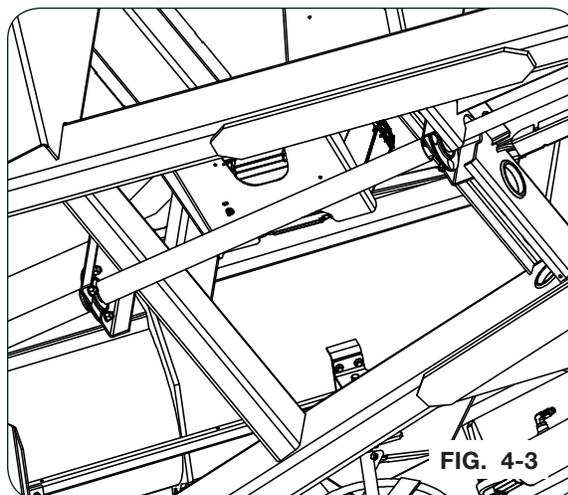

FIG. 4-3
9. Slide the hitch end of the driveshaft, bearing and hitch driveline cover into the bearing near hitch of the cart. (FIG. 4-3)